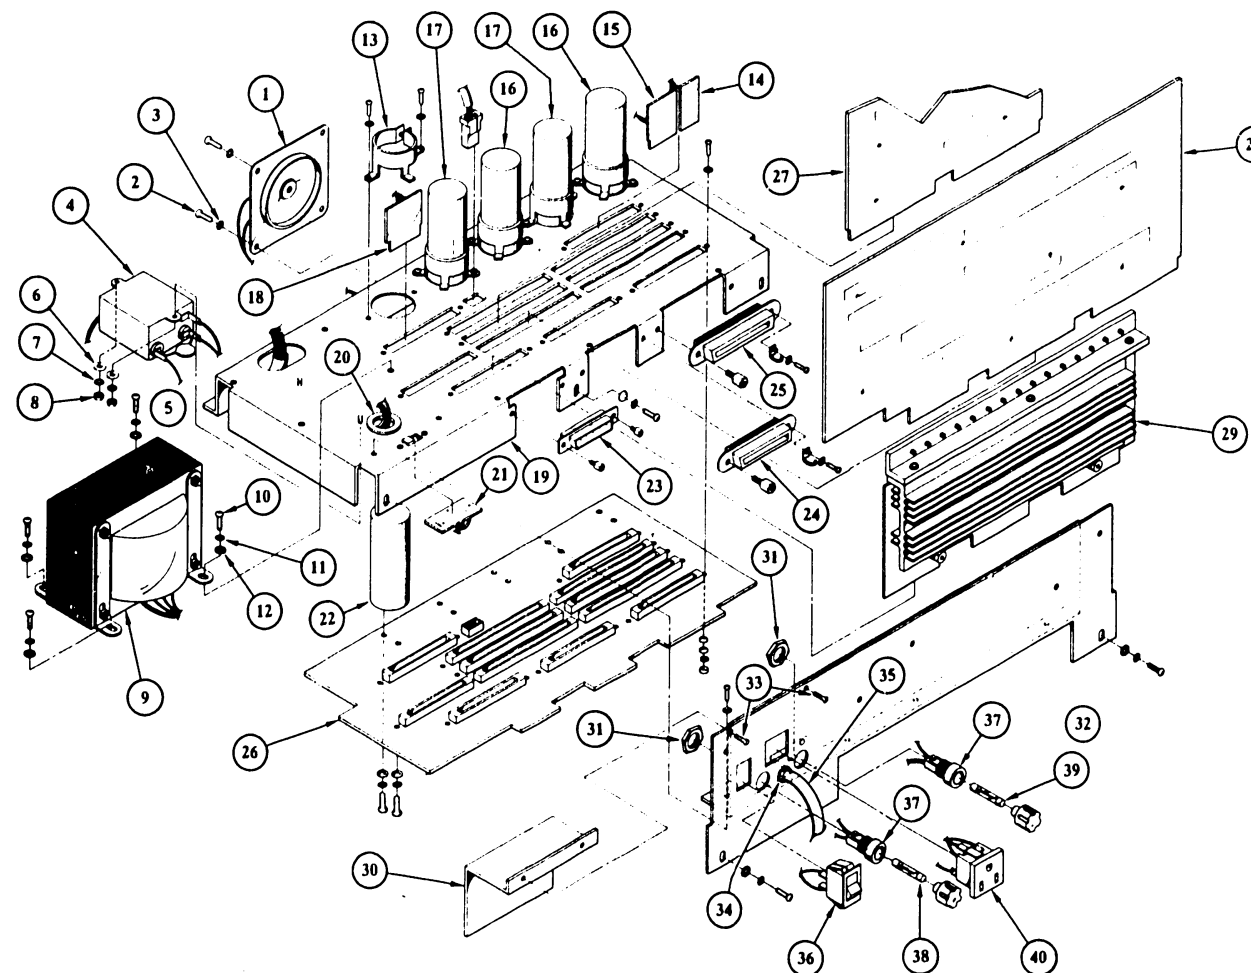

FIGURE 8-9 CHASSIS ASSEMBLY
8.3.9 CHASSIS ASSEMBLY PARTS LIST (SEE FIGURE 8-9)